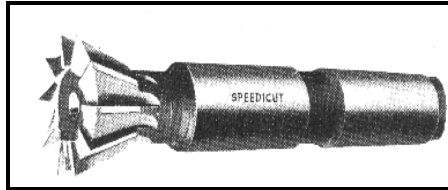

FIGURE 1.1
1.7 Identify the type of milling cutter shown in FIGURE 1.1 below.